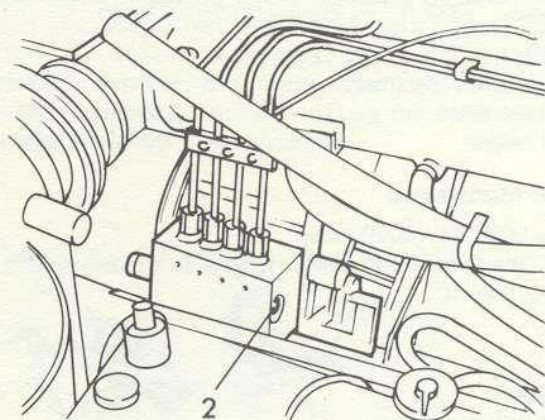

Fig. 2.03 Checking the pressure of the electric fuel pump.
That the jet (2) (Fig.2.03) in the hydraulic head of the injection pump, as well as the return pipes to the tank are free of obstructions.